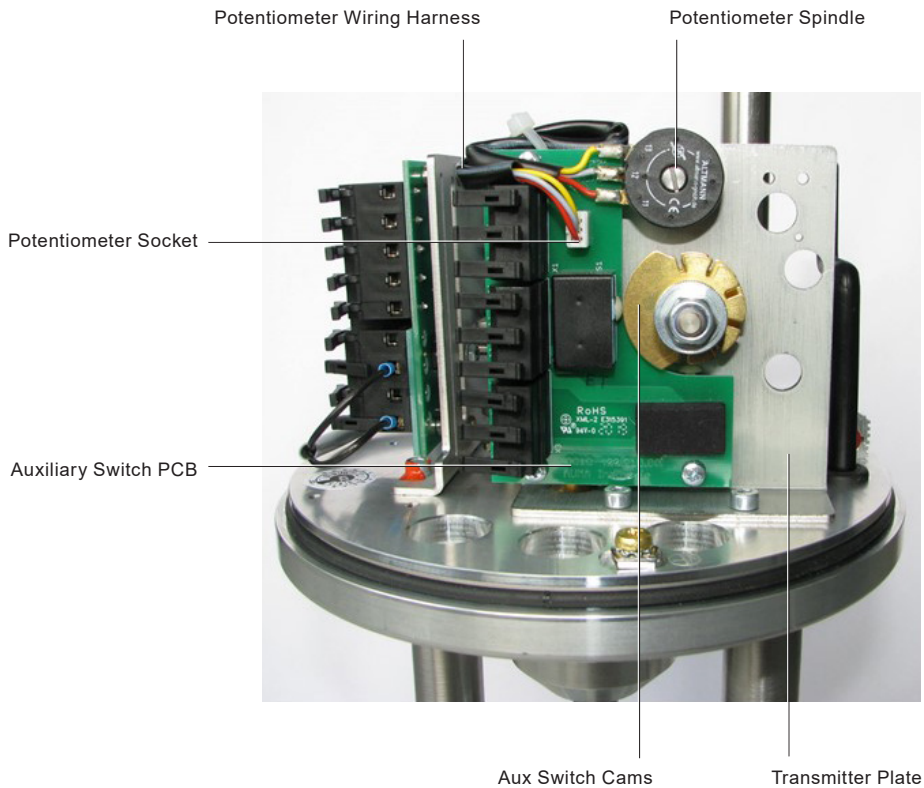

Fig. 12 Potentiometer Installation and Adjustment (1-6 kN)
- Refer to Figure 12 Potentiometer Installation and Adjustment (1 – 6 kN) for product orientation
- Connect the wiring harness to the potentiometer socket as detailed in Figure 12 Potentiometer Installation and Adjustment (1-6 kN)